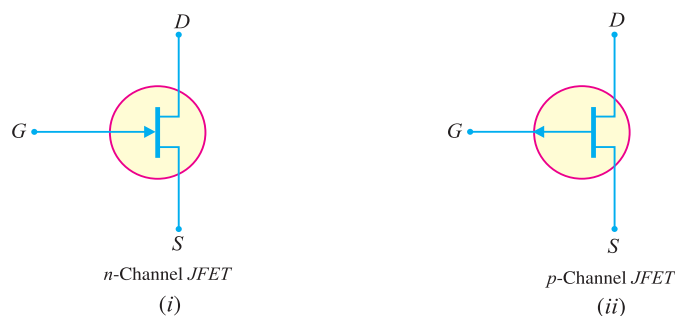

Fig. 19.4
Fig. 19.4 shows the schematic symbol of *JFET*. The vertical line in the symbol may be thought
as channel and source (S) and drain (D) connected to this line. If the channel is  $n$ -type, the arrow on the gate points towards the channel as shown in Fig. 19.4 (i). However, for  $p$ -type channel, the arrow on the gate points from channel to gate [See Fig. 19.4 (ii)].